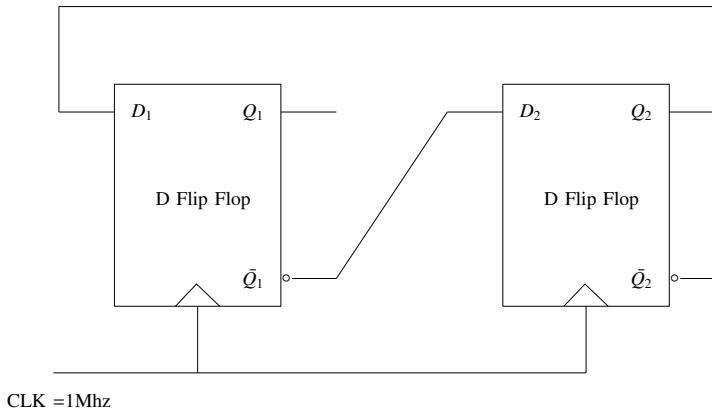

Fig. 5.9
9. In a given sequential circuit in Fig. 5.9, initial states are $Q_1 = 1$ and $Q_2 = 0$. For a clock frequency of 1MHz , the frequency of signal Q_2 in kHz, is (rounded off to the nearest integer)